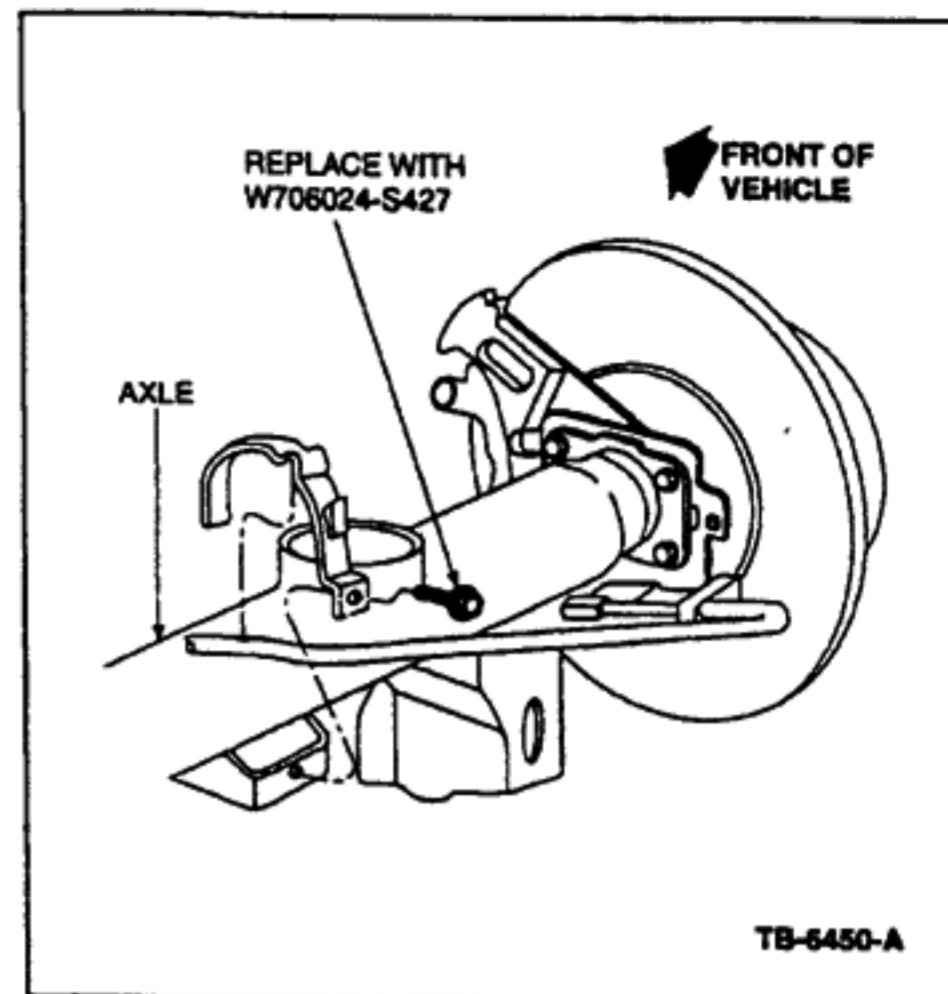

Figure 1 - Article 97-3795R2
1. On 1992-1997 vehicles, replace Park Brake Cable to Axle attaching hex head bolt part N806900-S2 with round-headed fastener part W706024-S427. Model year 1998 and later vehicles are of a different design and do not use this bolt (Figure 1).